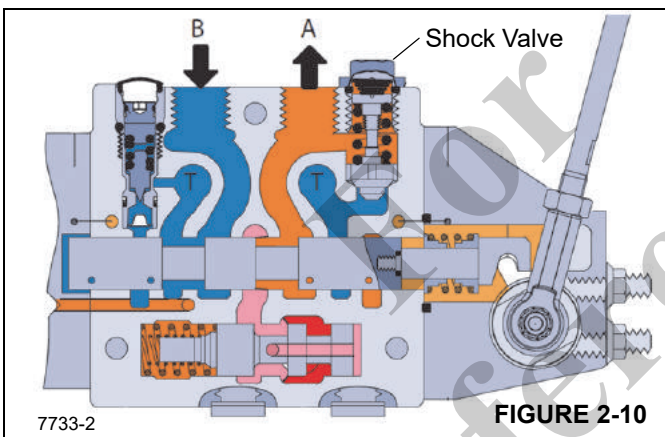
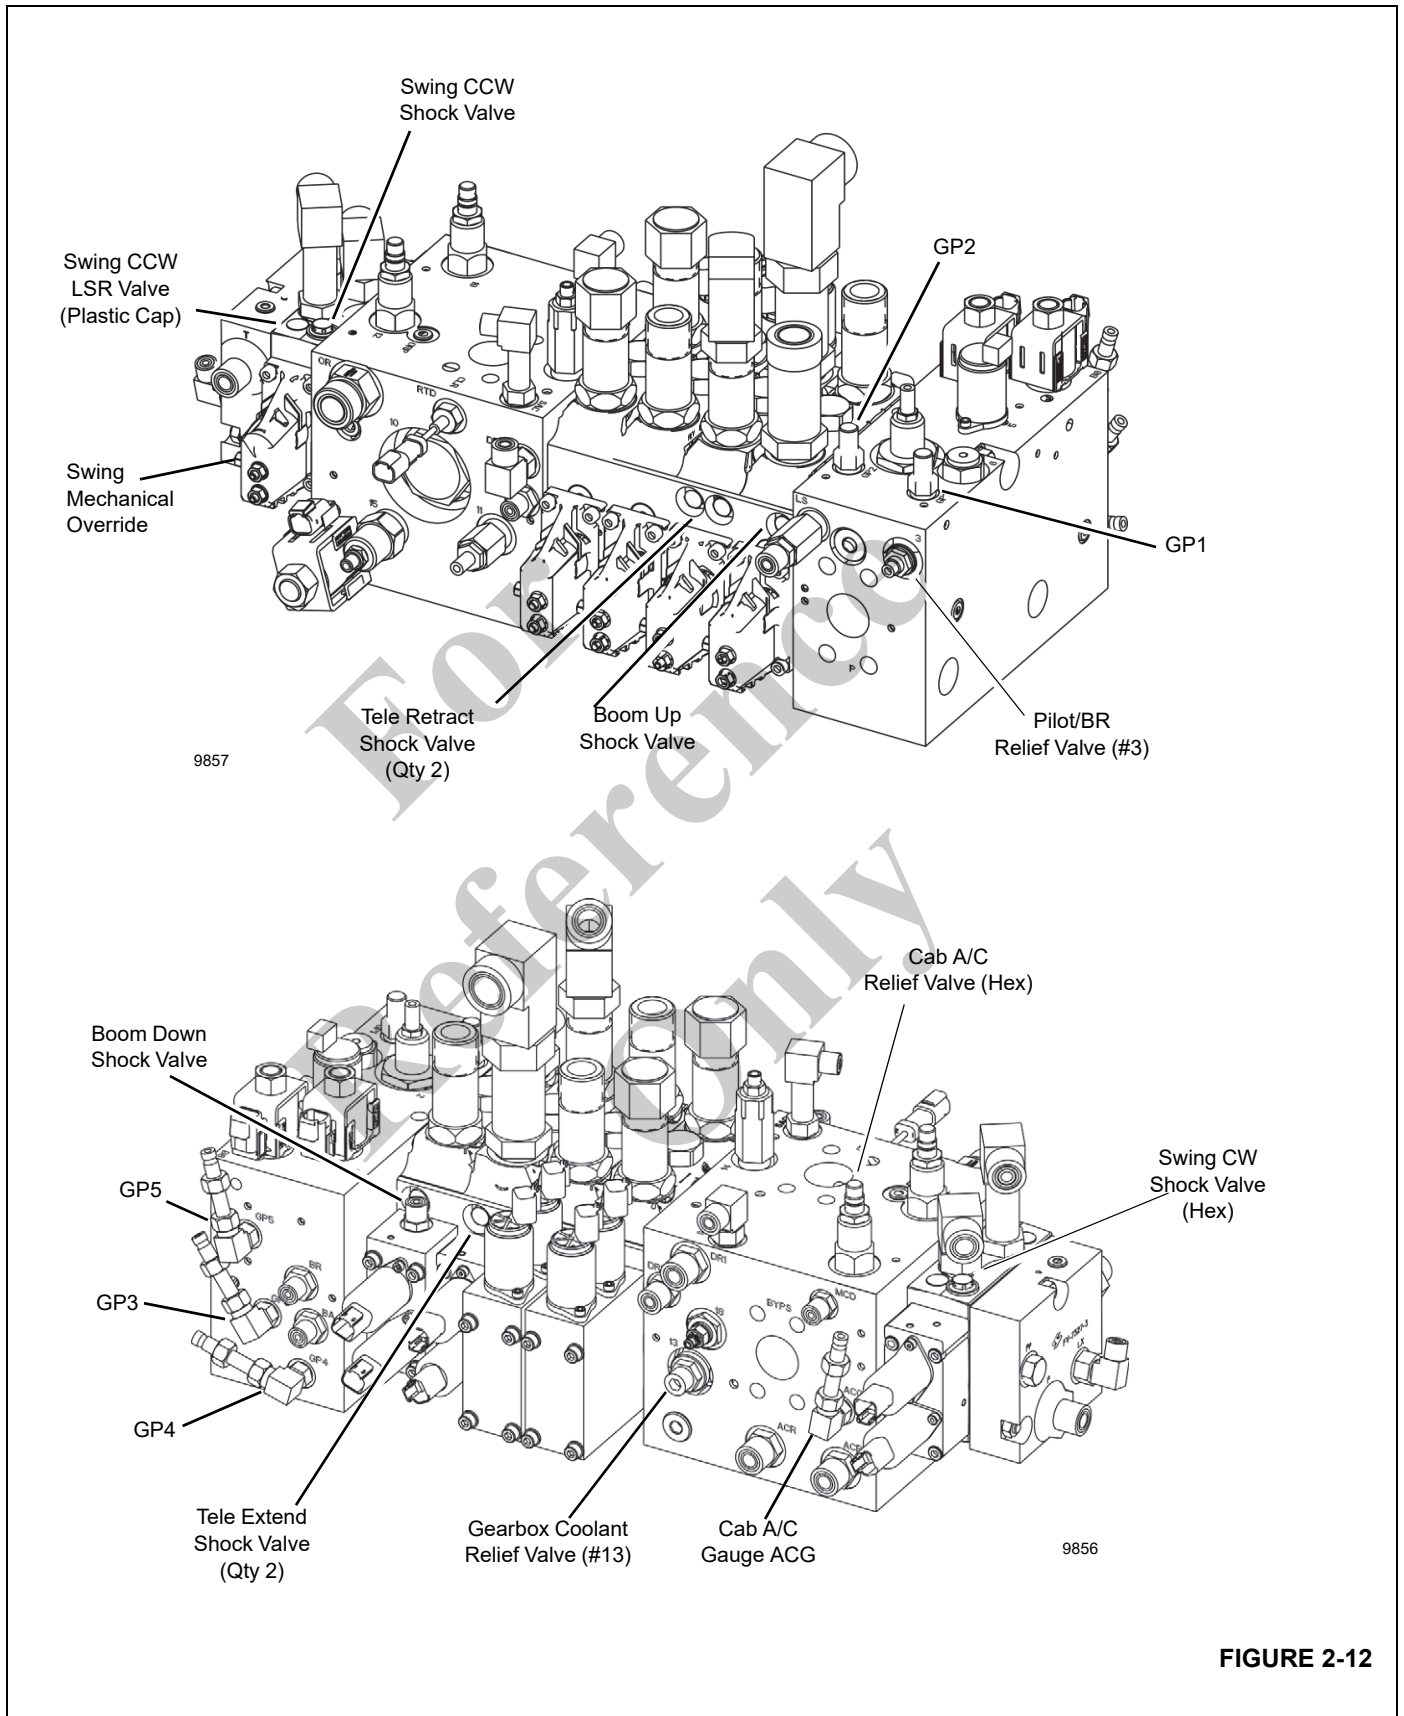

FIGURE 2-10
FIGURE 2-12
- b. For the Swing function, reference Figure 2-10 of the generic valve section cutaway. There are shock valves on each side of the valve section located adjacent to each workport (vertical).
Boom Up has a single shock valve in the valve section that has a fixed adjustment as shown in Figure 2-12 and Table 2-4.
Boom Down has a single shock valve in the valve section that has a fixed adjustment as shown in Figure 2-12 and Table 2-4.
The Telescope Extend function has dual shock valves in the valve section that each have a fixed adjustment as shown in Figure 2-12 and Table 2-4.
The Telescope Retract function has dual shock valves in the valve section that each have a fixed adjustment as shown in Figure 2-12 and Table 2-4.
Swing clockwise/counter clockwise each have a single shock valve in the valve section that has a fixed adjustment as shown in Figure 2-12 and Table 2-4. This cannot be changed, shimmed, etc. Reference comments in Section A about checking this setting on the physical shock valve assembly if suspect.
The swing setting should be set by the load sense relief valve (LSRV) for each direction as it is adjustable up to the shock valve setting mentioned above. These LSRV's are located under the rounded black plastic plugs located on each side of the section adjacent to the shock valves as shown in Figure 2-10 and Figure 2-12.
With the swing brake locked, actuate the valve using a 9mm box-end wrench on the spool's cam Figure 2-12. Pulling up on the wrench is swing counter clockwise, pushing down is swing CW.
The Cab A/C circuit has a single relief valve in the directional control valve mid-inlet manifold with a setting as shown in Figure 2-12 and Table 2-4.
- a. Install a 345 bar (5000 psi) minimum gauge in the ACG gauge port on the control valve mid-inlet manifold Figure 2-12.
The Pilot Supply circuit has a single relief valve in the directional control valve inlet manifold with a setting as shown in Figure 2-12 and Table 2-4.
- a. Install a 69 bar (1000 psi) minimum gauge in the GP5 gauge port on the control valve inlet manifold Figure 2-12.
The Swing Brake Release circuit has a single relief valve in the directional control valve inlet manifold with a setting as shown in Figure 2-12 and Table 2-4.
- a. Install a 69 bar (1000 psi) minimum gauge in the GP4 gauge port on the control valve inlet manifold Figure 2-12.
1. The Swing Brake Apply circuit is controlled through a proportional solenoid valve shown in Figure 2-12 and Table 2-4 and cannot be adjusted.
- a. Install a 69 bar (1000 psi) minimum gauge in the GP3 gauge port on the control valve inlet manifold. See Figure 2-12.
1. The Gearbox Coolant circuit has a single reducing valve in the directional control valve mid-inlet manifold with a setting as shown in Figure 2-12 (Gearbox Coolant Relief Valve #13).
- a. Install a 345 bar (5000 psi) minimum gauge in the GP2 gauge port on the directional control valve Figure 2-12.